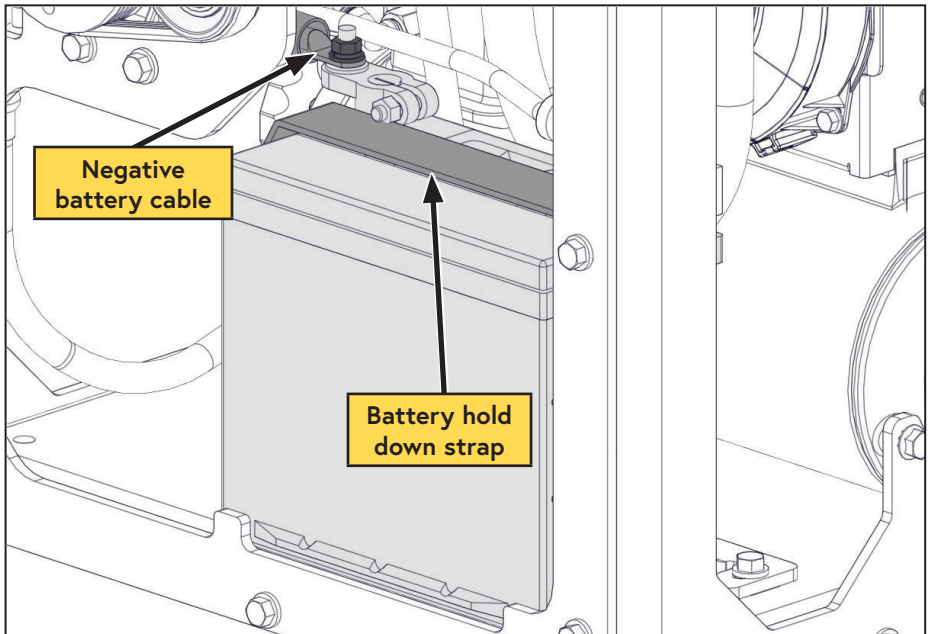

Figure 61 — Remove battery
- ☐ Disconnect the negative battery cable (Figure 61).
- ☐ Disconnect the positive battery cable (Figure 61).
- ☐ Undo the battery hold down strap (Figure 61).